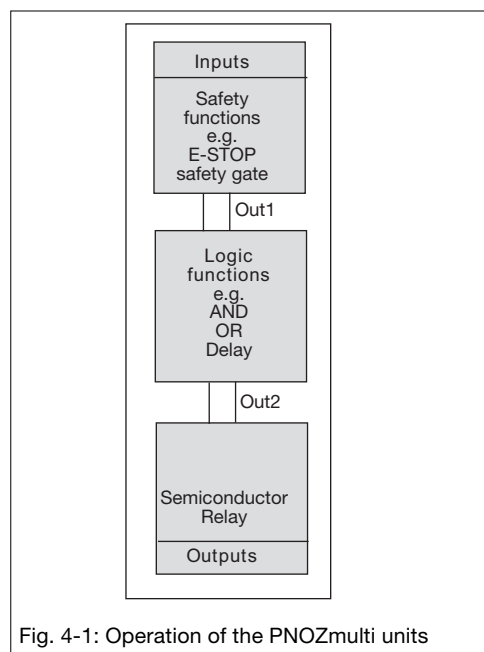

Fig. 4-1: Operation of the PNOZmulti units
- The units react the same, irrespective of these functions: If the start-up condition of the specific safety function is met, there will be a high signal at the output "Out1" (see Fig. 4-1). The output signal can be linked via